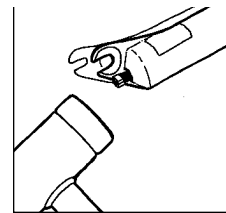

Fig. 5
3. Partially loosen shaft bolts with a 6 or 8mm hex wrench, tap bolts firmly with a mallet breaking shafts free from lower tube (see Fig. 5), and remove bolts completely. Oil from the open oil bath will pour out of the bottom of the lower tube when you take the shaft bolts off. Use a rag to catch the oil.